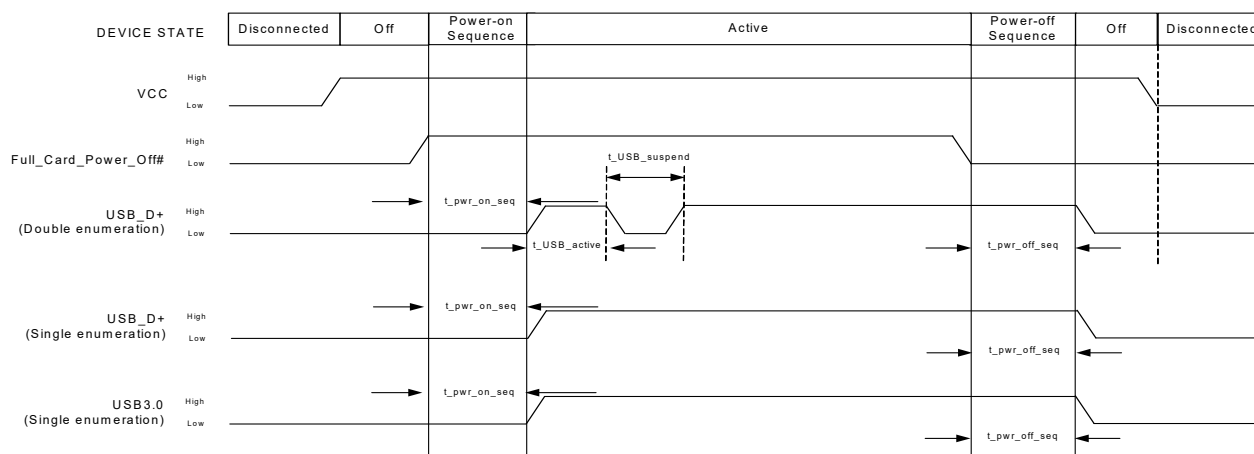

Figure 5-2: Signal Timing (Full_Card_Power_Off#, and USB Enumeration)
Figure 5-2 describes the timing sequence for powering the module on and off.
- Double enumeration—As shown in Figure 5-2: